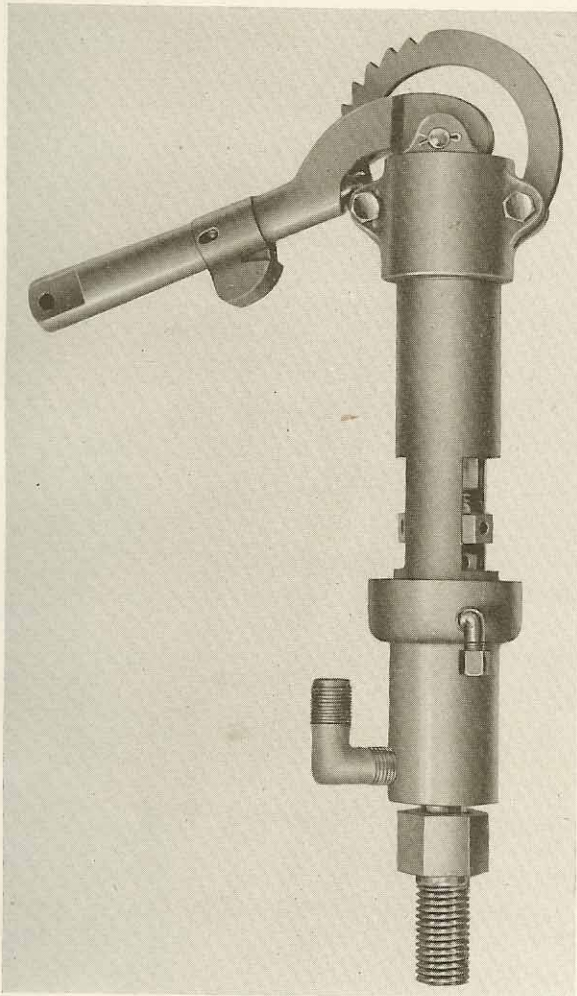

FIGURE 16-1
1. FUEL REGULATING VALVE IN GENERAL: This valve, shown in Figure 16-1, requires very little servicing but nevertheless is an important part of the fuel system. It should not be dismantled or tampered with during routine inspections or overhauls. However, when trouble develops, the valve should be taken apart immediately and serviced. A leaky regulating valve will cause faulty starting and maneuvering and also makes the accurate timing of the spray valves impossible. A leak in this valve will often lead an operator to believe that other parts of the fuel system are at fault.